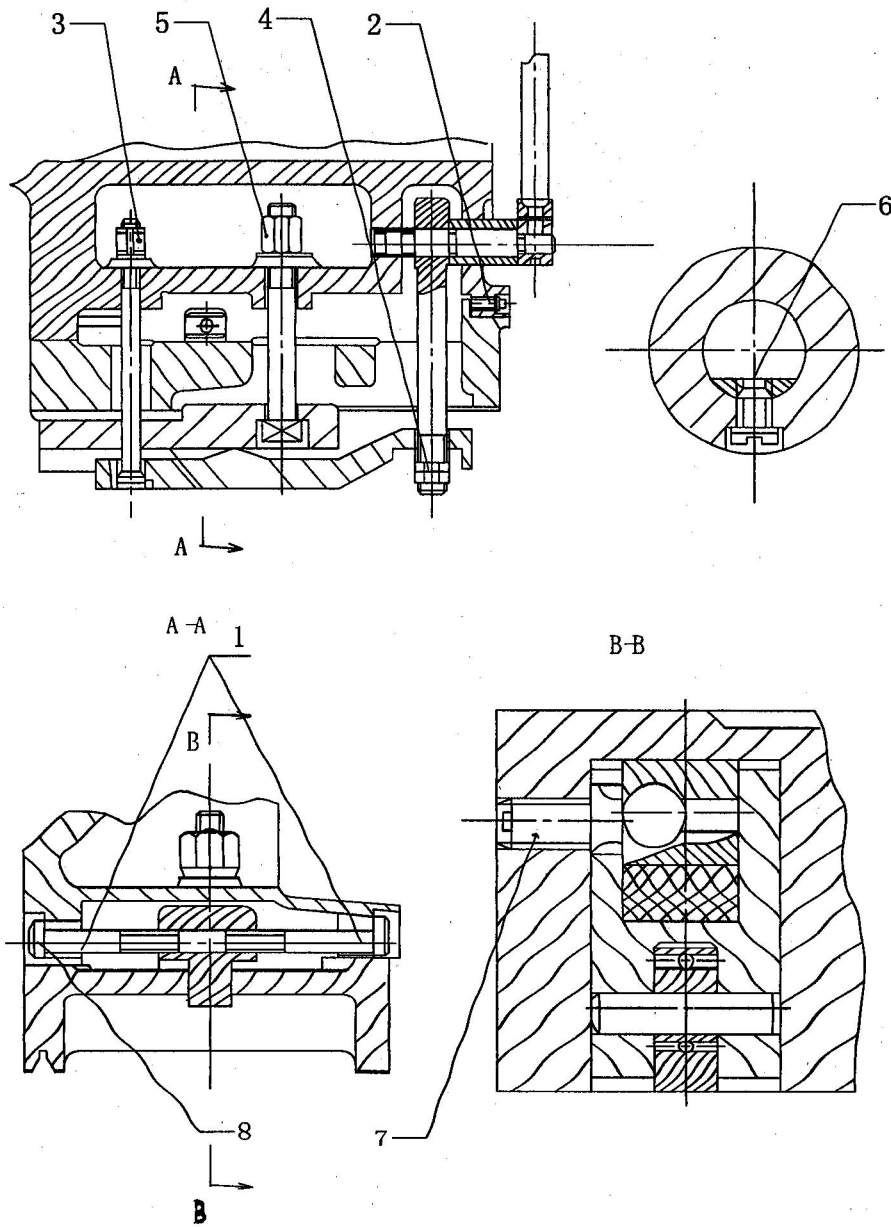

Fig. 11-6 Tailstock adjustment diagram
A stop dog (6) fixed in the taper hole of the tailstock is to prevent the tool held from rotating. The tailstock can move crosswise on the single-direction ways. Cross adjustment is performed with screw (1). Before adjusting be sure to unclamp the tailstock and loosen the screw (2). After completion of adjustment tighten screw (2) again. When resetting the tailstock, make sure that flanges (8) are in alignment. See Fig. 11-6.